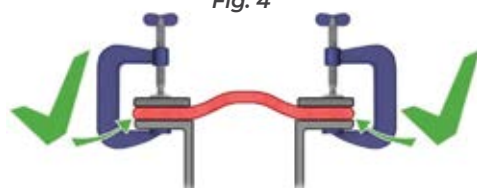

Fig. 5
- Starting from the corners, use the same process to install all remaining clamp bar sections loosely, ensuring even distribution of excess expansion joint material (**See: Fig. 5**)